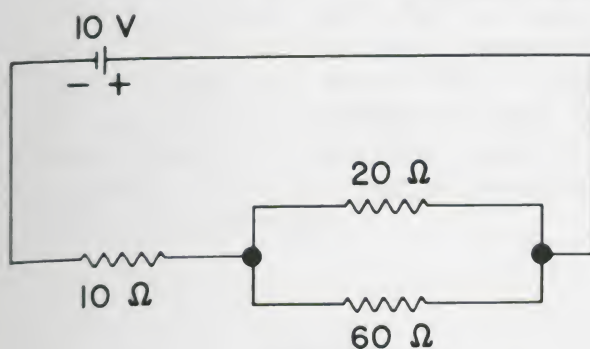

Figure 46.
6. For the circuit shown in Figure 46,